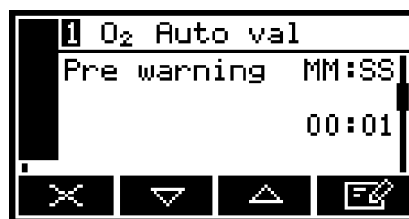

Figure 38 – The Auto val/cal pre-warning timer screen
3. If you changed the pre-warning setting from 'Off' to 'On', the Auto val/cal pre-warning timer screen will then be displayed (see Figure 38). Edit the displayed time as described in Section 4.10.